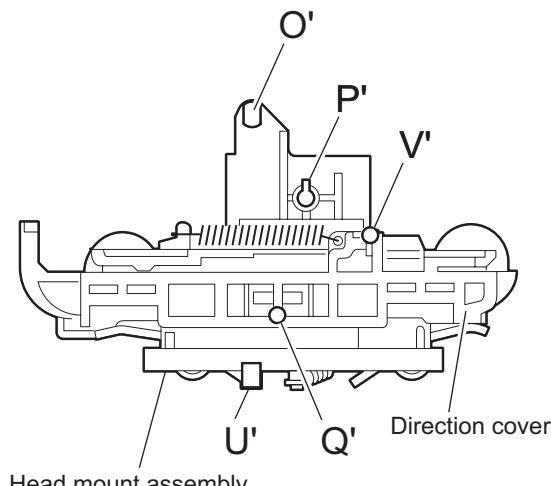

Fig.11
## 2.2.6 Reattaching the Play/ Record & Clear head (See Fig.11~13)
(1) Reattaching the head mount assembly.
- Fit the bosses O', P', Q', U' and V' on the head mount assembly to the holes P and V, the slots O, U and Q of the mechanism sub assembly (See Fig.11 to 13).